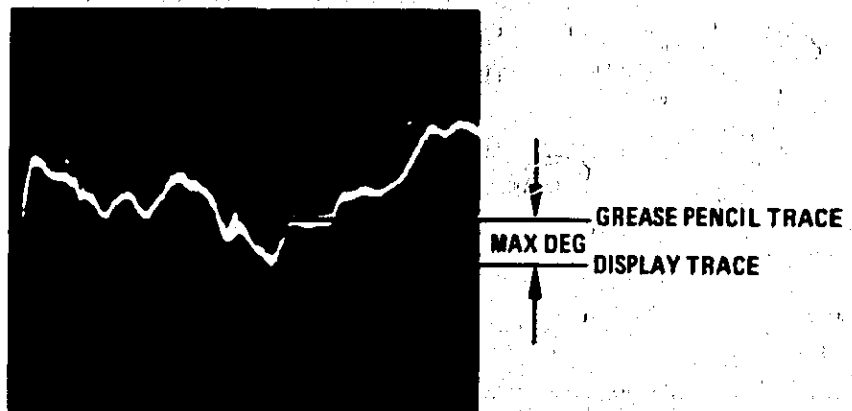

Figure 8. Transmission Frequency Response Phase
- (1) Set 8505A Signal Processor Channel 2 SCALE/DIV switch to 90 DEG.
- (2) On 8505A Signal Processor Electrical Length, press the LENGTH pushbuttons and adjust VERNIER B control to display a horizontal trace on the CRT.
- (3) Set 8505A Signal Processor Channel 2 SCALE/DIV switch to 2 DEG and repeat step h (2).
- (4) On 8505A Signal Processor Channel 2 press MKR and ZRO pushbuttons.
- (5) On 8505A Signal Processor Channel 2 press the REF OFFSET pushbuttons to center the display around the grease pencil phase trace.
- (6) Measure the maximum difference between the grease pencil trace and the display trace (Figure 8). This measured value should be  $< 8^\circ$ .